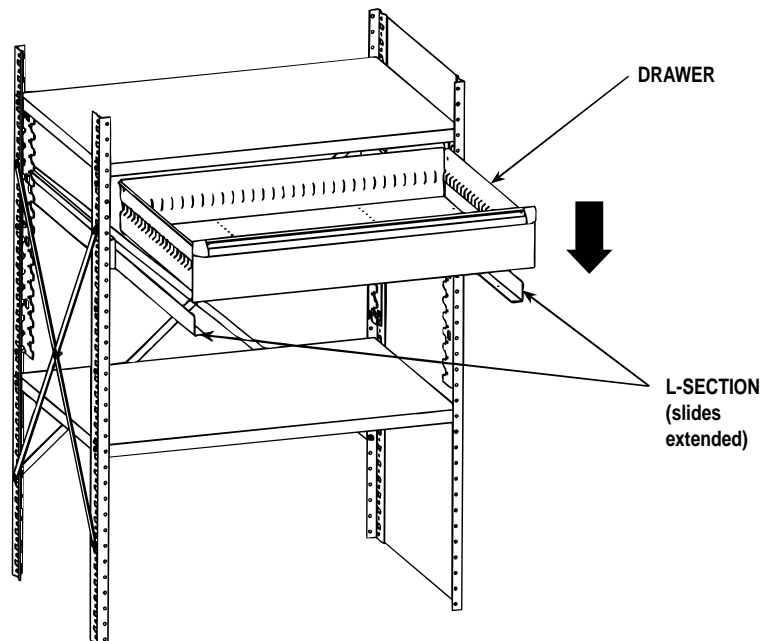

FIGURE 5
1. With the slides in the extended position, place a drawer on the top of the L-section of the drawer slides. Set the two (2) ultra-grip rivets in bottom of drawer into rear holes of slide L-sections. (See Figure 5)